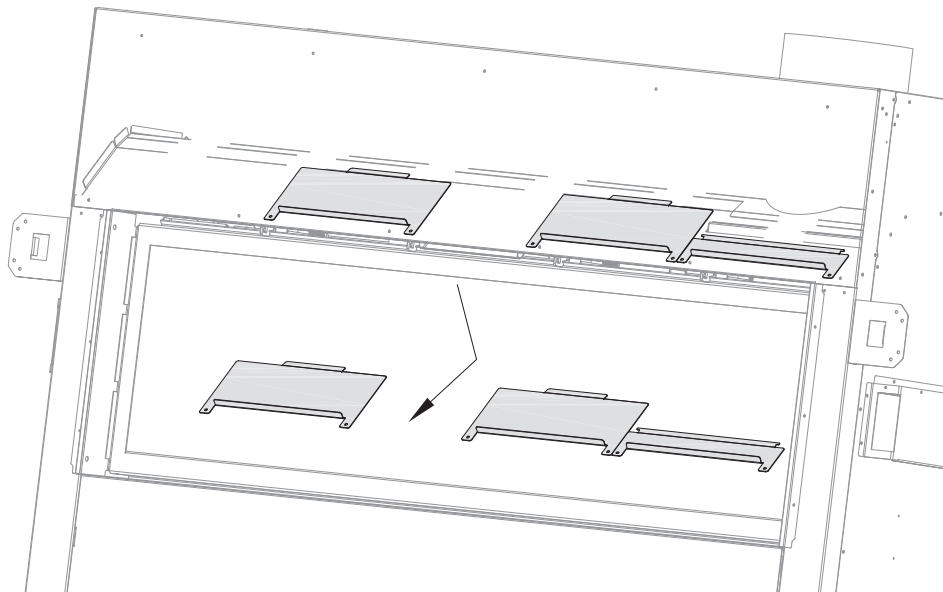

Figure 4.8 - Convection Baffles Removal
3. Locate the convection baffles as shown in Figure 4.8. There are (2) screws that secure each convection baffles behind the upper edge of both sides of the fireplace. Remove the screws and convection baffles from the fireplace. Discard the convection baffles. See Figure 4.9 for information about airflow.